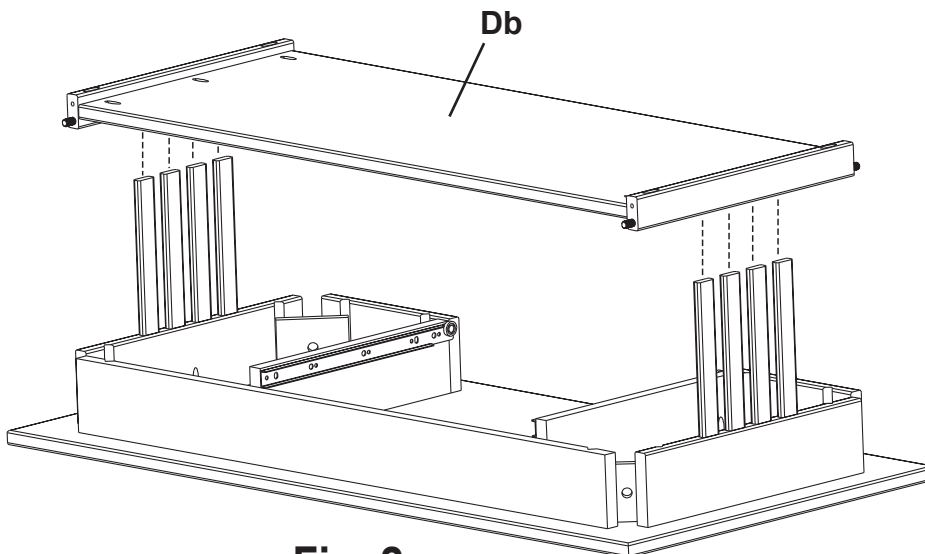

Fig. 2
2. Position the Shelf Assembly (Db) so that the slats line up with the holes on the right and left sides. Lower the Shelf Assembly on to the Slats and gently tap into place with a mallet or padded hammer. See Figure 2.